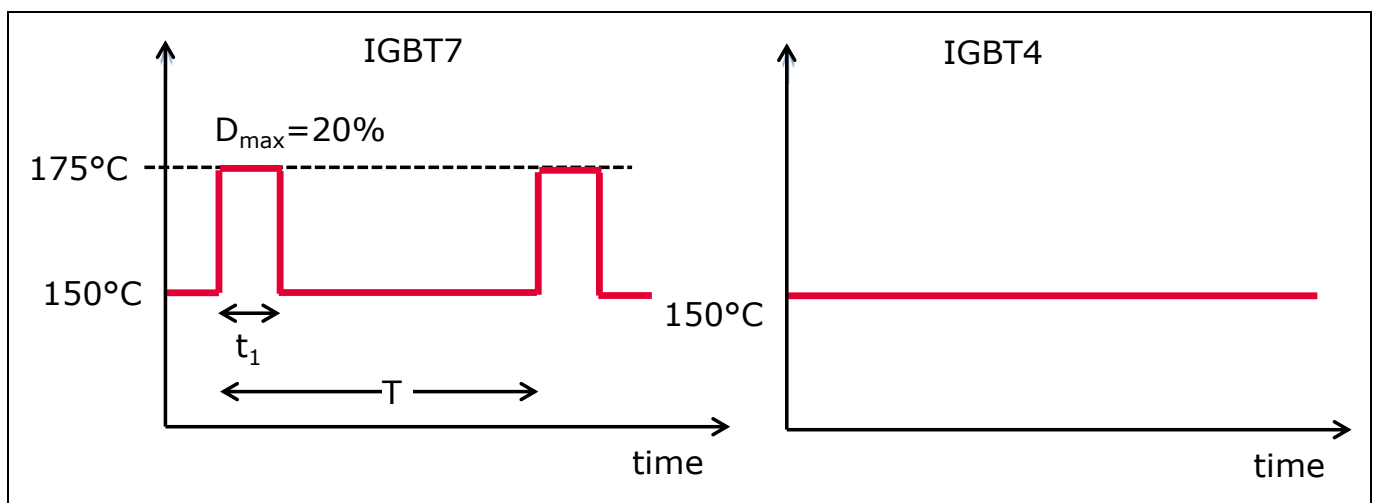
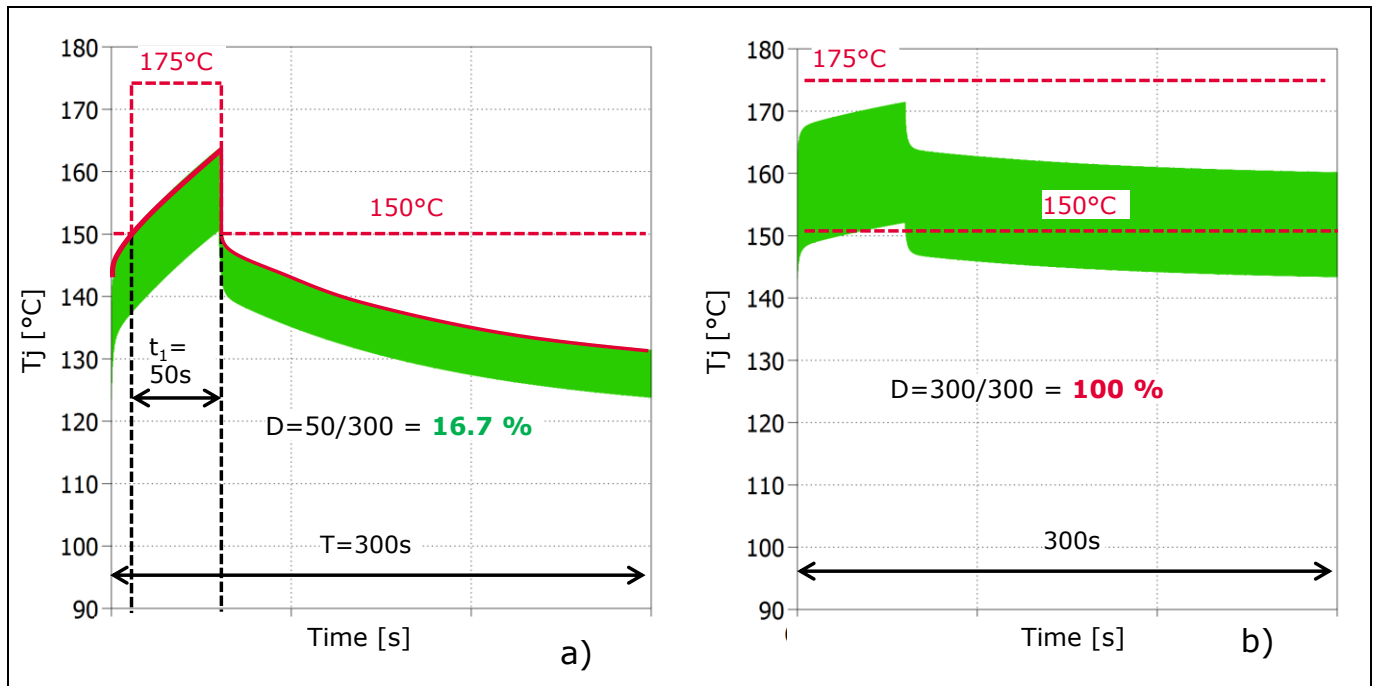

Figure 8. Maximum operation junction temperature definition for IGBT7 and IGBT4
Figure 9. Examples illustrating when the 175°C junction temperature operation is a) allowed and b) not allowed
Figure 8 shows the definition of the allowed operation junction temperature under switching conditions for IGBT7. For normal operation, the maximum junction temperature is 150°C . During overload conditions, a maximum junction temperature above $T_{vjop}=150^{\circ}\text{C}$ and up to $T_{vjop}=175^{\circ}\text{C}$ is allowed for a maximum duration of $t_1 = 60$ seconds. The overload duration where the T_{vjop} is above 150°C must be within 20% of the load cycle time (T), e.g. $t_1=60\text{s}$ every $T=300\text{s}$. Using this increased junction temperature capability, compared to a maximum $T_{vjop}=150^{\circ}\text{C}$, can enable higher power density, but also can result in higher heatsink temperatures.
The maximum temperature definition shown in Figure 8 should be considered as the maximum T_{vjop} limitation including the temperature ripple due to the fundamental output frequency. Figure 9 provides two examples of junction temperature profiles. In Figure 9a, T_{vjop} exceeds 150°C for $t_1=50\text{s}$. It is below 150°C for the rest of the $T=300\text{s}$ cycle. Therefore, the duty cycle is 16.7%. This condition would be allowed from a maximum operating junction temperature point of view. Another example is shown in Figure 9b. In this case the temperature of 150°C exceeds the maximum curve of the junction temperature for the whole period of the load profile. Therefore, this operation would not be allowed.